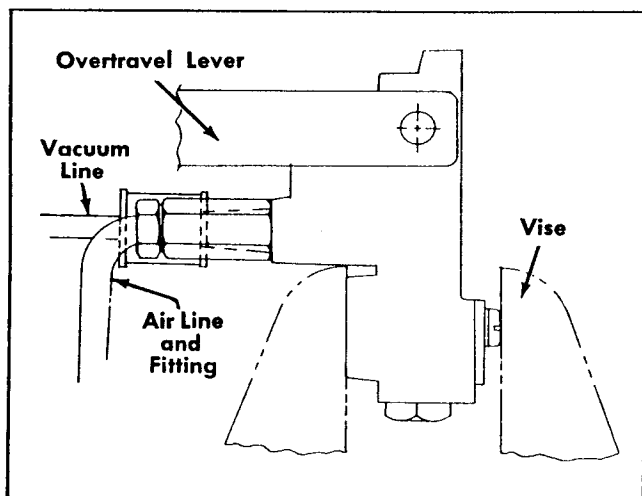

Figure 12-14: Valve Position For Time - Delay Check
- (3) Place new delay piston cover O-ring in groove of valve body. Install cover with snap ring retainer.
- (4) Place valve assembly vertically in holding vise, Refer to Figure 12-14.
- (5) Move overtravel lever up and down for approximately one minute.